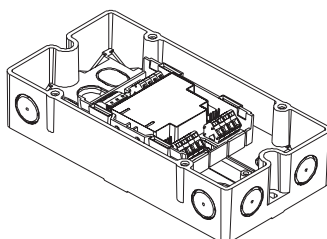

Fig. 4.3.2
- Installation outside a switching cabinet or a control unit: use FDCH221 housing (Fig. 4.3.2) .
3. Use two screws (M4) to fit the housing on a plane surface (Fig. 4.3.2). Distance between holes: 182.0 ± 1.0 mm.
2. Fix module with two screws in the housing (Fig. 4.3.2).